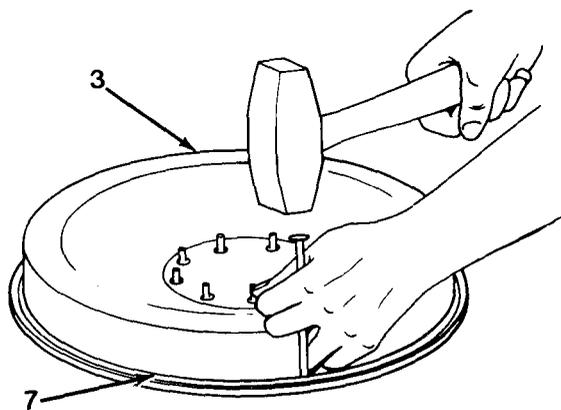

Figure 6-8
Using a brass drift pin, drive ring gear (7) from flywheel (3, Figure 6-8).